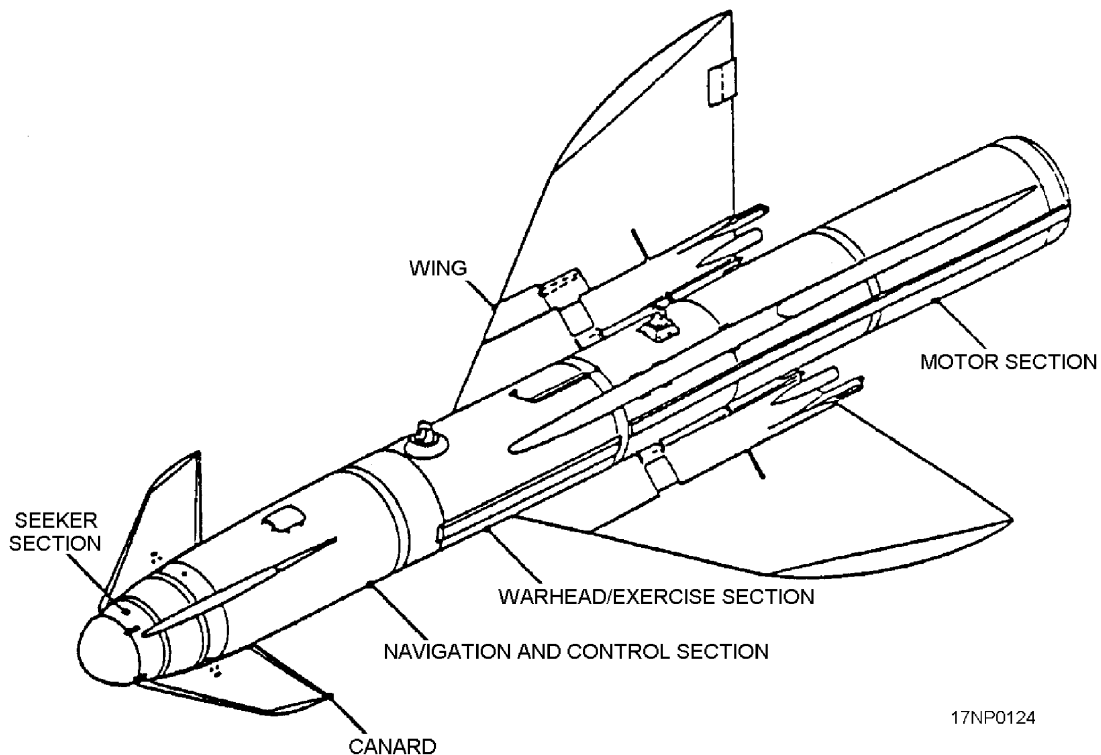

Figure 3-14.—AGM-119B Penguin missile.
The AGM-119B (fig. 3-14) is a fire and forget, antisurface ship, all-up-round (AUR) missile. The missile uses inertial guidance and infrared (IR) homing. The AGM-119B is intended to be launched from the SH-60B LAMPS helicopter. It is the first helicopter-launched, air-surface, antiship missile system in the U.S. Navy inventory.